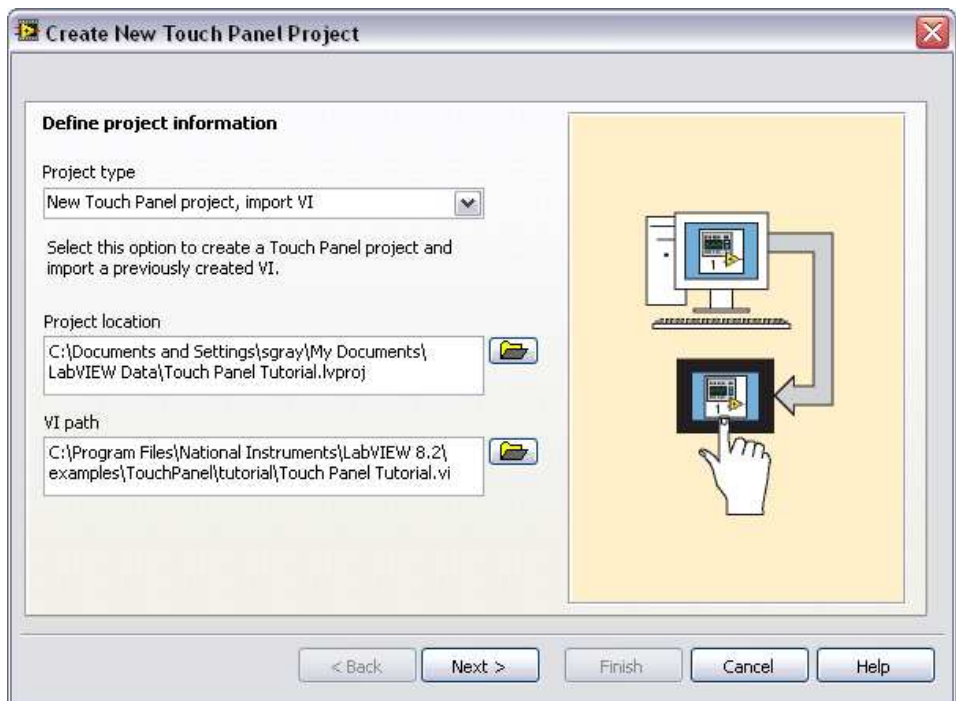

Figure 2. Defining the Project Information
4. Define the project information as shown in Figure 2.